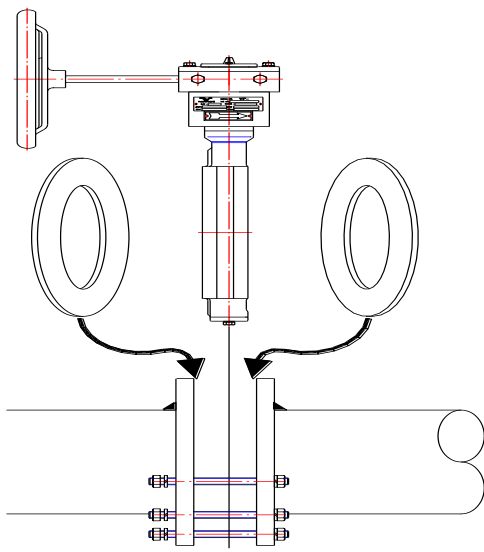

Fig. 5
- Install the valve and gaskets into the pipeline (Fig.5).